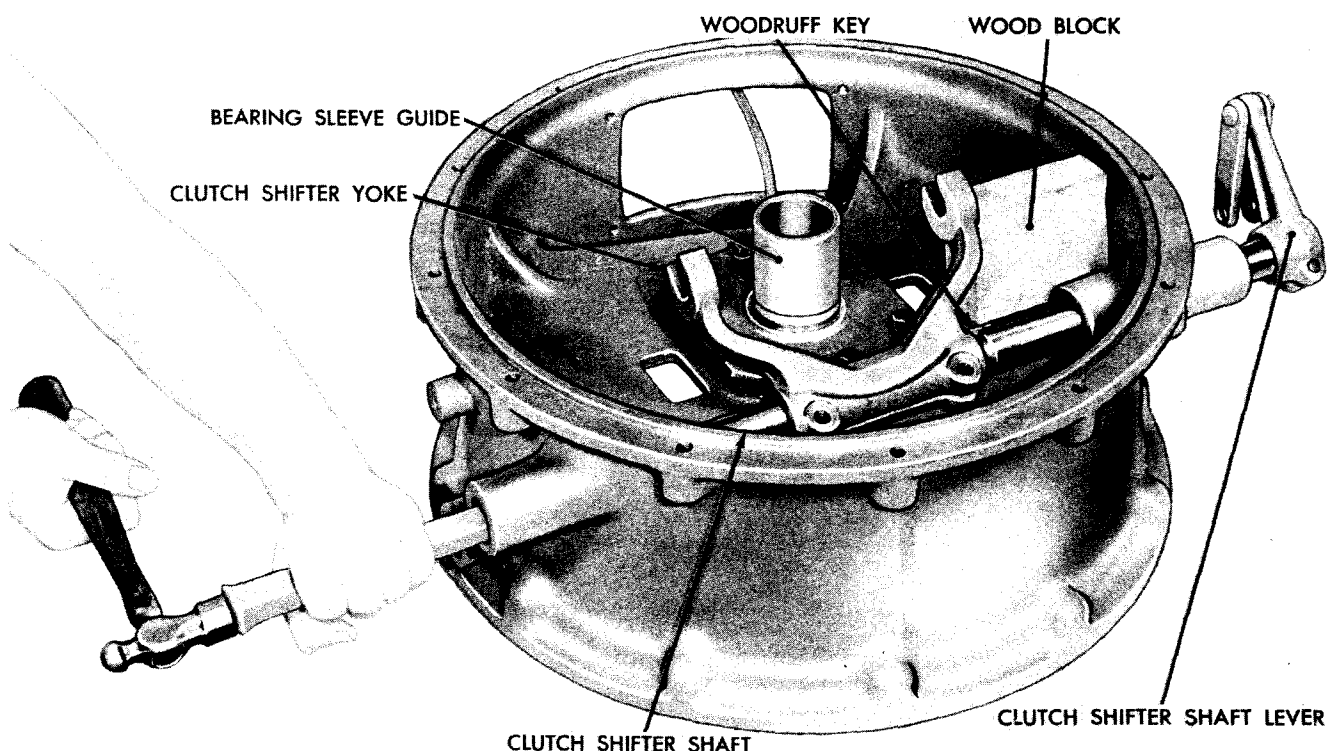

Fig VIII-2. Removing clutch shifter shaft
(1) Using a 5/8-inch wrench, remove two bolts that hold the clutch shifter yoke (fig. VIII-2) in position on the clutch shifter shaft.
(3) Using a drift slightly smaller in diameter than the shifter shaft, and, with a block of wood between the housing and the shifter yoke, drive the shifter shaft out far enough to remove one Woodruff key (fig. VIII-2).
(4) Remove the Woodruff key and continue driving the shifter shaft out until the second Woodruff key can be removed.
(5) Remove the second Woodruff key and remove the shifter shaft.
(6) Do not remove three needle bearings
(7) Using a 7/16-inch wrench, remove the bolt and lock washer from the clutch shifter shaft lever (fig. VIII-2). Remove the clutch shifter shaft lever and Woodruff key.
(1) Using a 9/16-inch wrench, remove six bolts and lock washers from the clutch release bearing sleeve guide (fig. VIII-2).